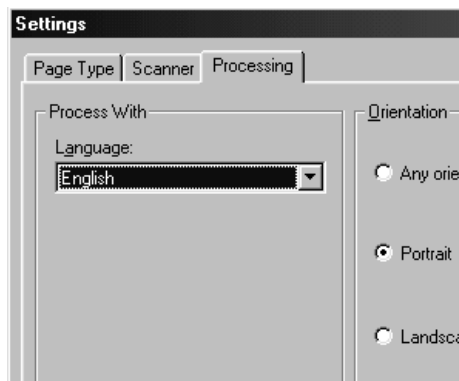

Figure 26: Selecting the language
9. Select the language in the 'Process With' box by clicking on the triangle and selecting the language (Figure 26).